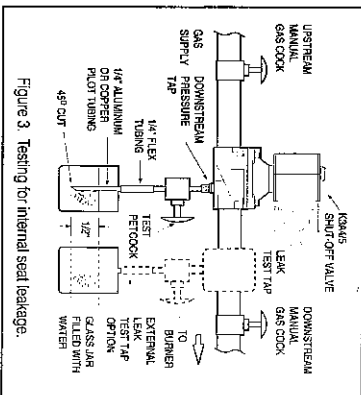

Figure 3. Testing for internal seal leakage.
Series K3A4 and K3A5 valves are provided with two 1/8" NPT tapped and plugged holes (pressure taps). The upstream tapped and plugged hole is on the side of the valve body; downstream on the bottom of the valve body. One upstream for pressure testing; one downstream for seat leakage testing. Leakage testing frequency shall be at least annually in accordance with NFPA-86 or original equipment manufacturer recommendations. For instructions, refer to section on *Testing for Internal (Seat) Leakage* and Figure 3.
**Testing for Internal (Seat) Leakage (Refer to Figure 3)**
4. Shut off the upstream manual gas cock and de-energize valve. Remove the plug from the leak test tap or downstream pressure tap in the valve body. Connect leak test equipment with the test petcock in the closed position (Figure 3).